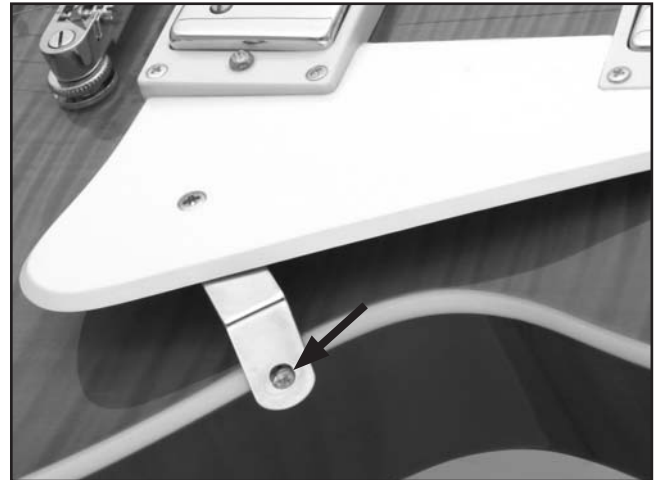

Figure 32. Bracket screw placement.
4. Drill $\frac{1}{2}$ " deep holes through the holes in the pickguard and bracket and into the guitar body. The hole for the bracket should be about where the binding joins the guitar body as shown in **Figure 32**.